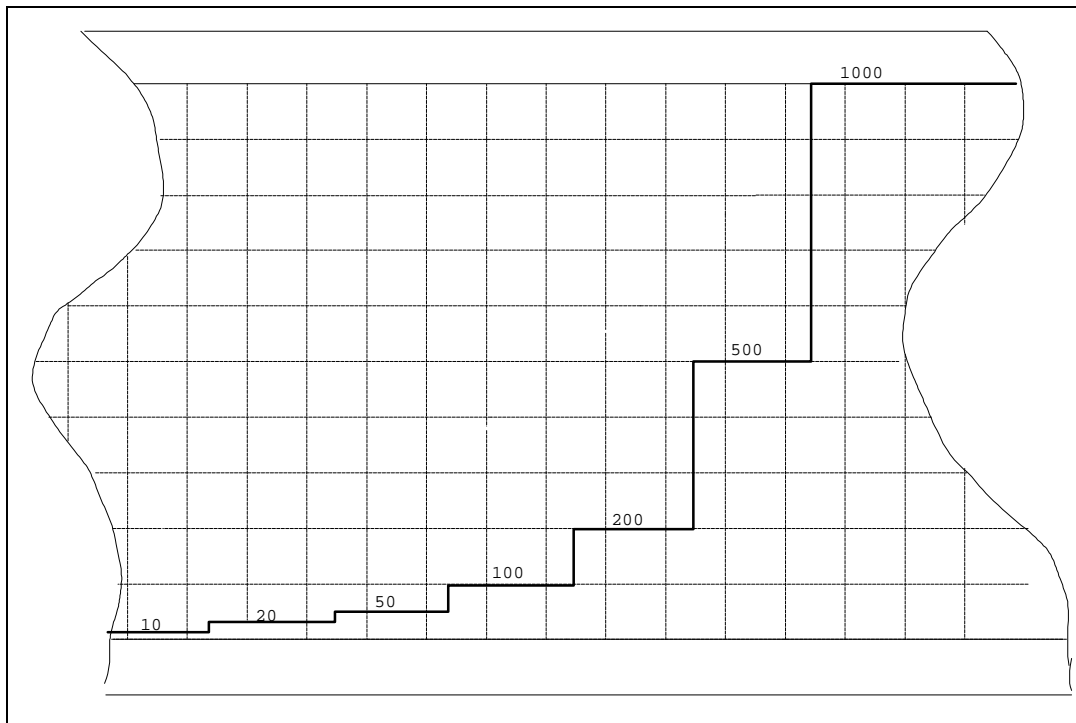

Figure 4 Chart Calibration
7. Set the CALIB switch to zero and start the chart paper at slow speed. Slowly rotate the RUN/CALIB switch clockwise, forming a stair step on the chart recorder as shown in Figure 4.